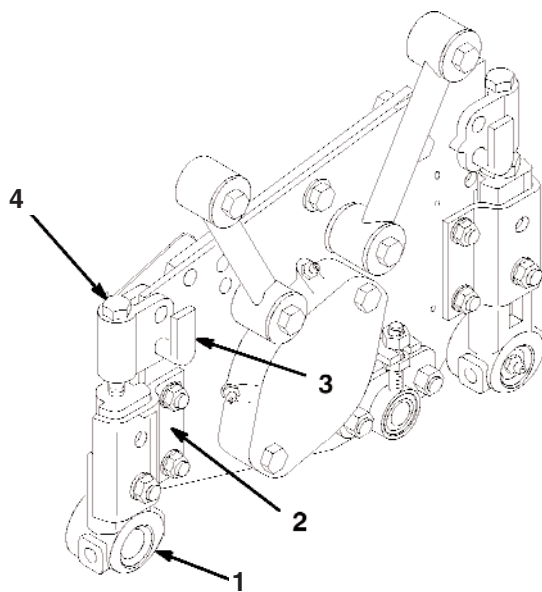

Figure 1
1. Remove the 2 lock nuts securing each angle bracket to the cutting unit (Fig. 1).
2. Remove the height-of-cut pins (Fig. 1).
3. Insert the smaller-diameter shaft end of the roller into the white bushing in the roller bracket (Fig. 1), making sure the flanged end of the nylon bushing faces inside toward the roller. The hex of the roller bracket must mate with the hex of the adjustment nut.